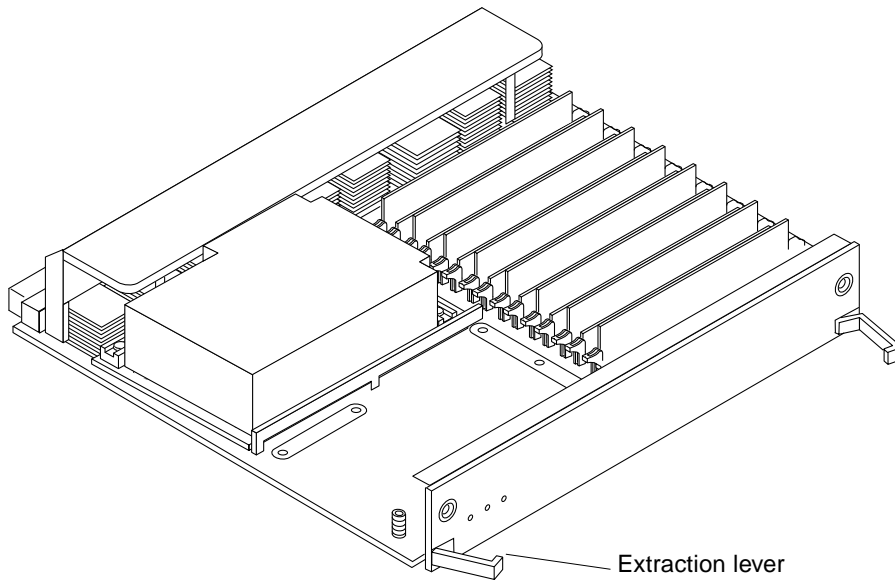

FIGURE 3-3 CPU/Memory+ Board
3. Pull the ends of both extraction levers outward simultaneously to unseat the board centerplane connector from the centerplane receptacles (FIGURE 3-3).
2. Pull the ends of both extraction levers outward simultaneously to unseat the board from the centerplane receptacles (FIGURE 3-3).
The board will not seat fully unless the levers are in this starting position. See FIGURE 3-3 on page 3-6 for positioning of the levers.